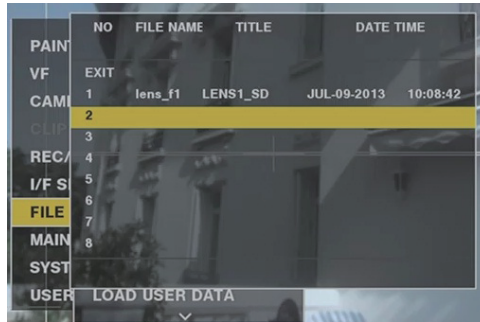

Fig. 2
- 2 Select the file to write from the file list. (Fig. 2)